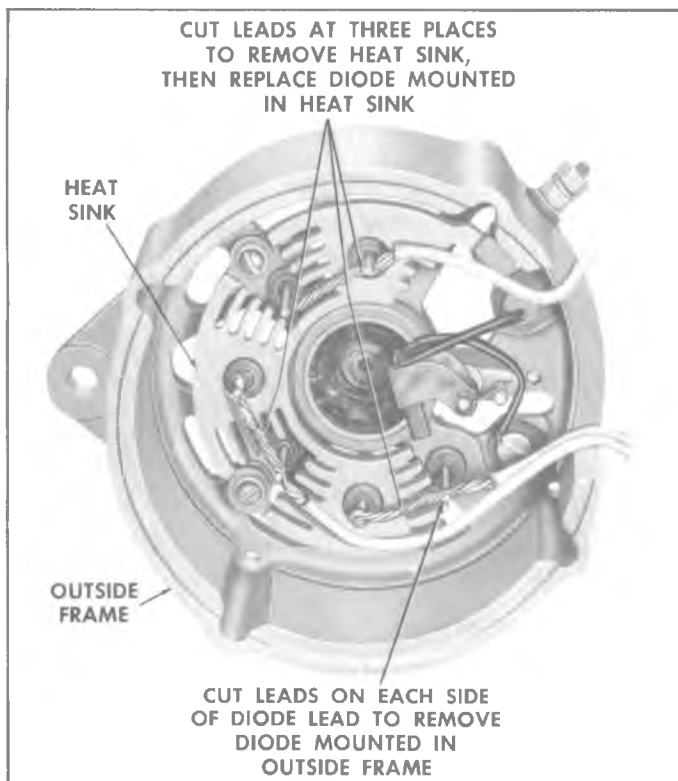

Fig. 21c—Replacing Defective Diodes
1. Cut the flexible lead (s) as close as possible to the defective diode lead (fig. 21c).
3. Install new holder, brush and lead assembly onto pivot pin (fig. 21c). Attach retaining clip to pivot pin.